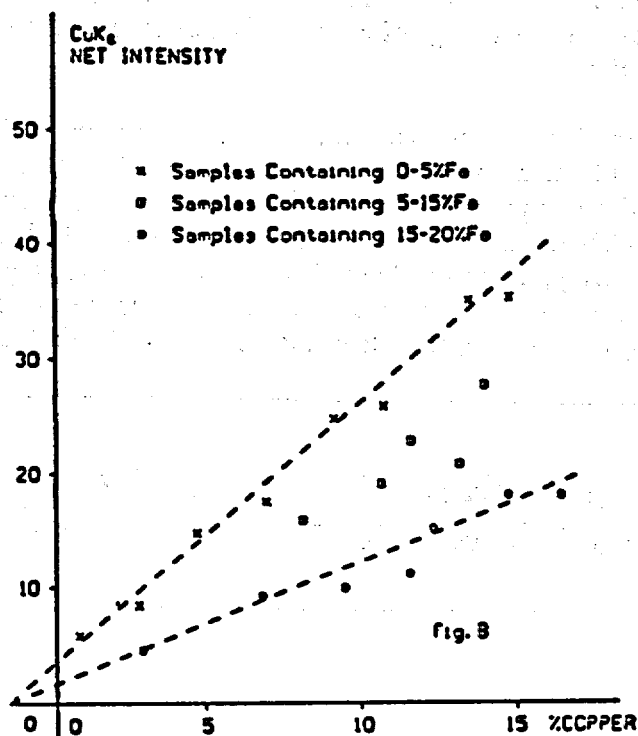

Figure 2.5 Demonstration of matrix effects on the measured intensities.
When significant matrix effects are present, linear matrix corrections will give more accurate results than a simple calibration line. Figure 2.5 shows a typical case of matrix effects discovered as the calibration line was plotted for an element. The variation of iron content clearly has effect on the detected CuK intensities. If the net intensity of iron is included in a linear matrix equation for copper intensity, the errors due to iron interference can be partially eliminated. In this example, because iron clearly effects the slope of Cu, a better equation than a simple line would be as in eq. (9), i.e. the independents would be: 1. Cu ; 2. Fe * Cu